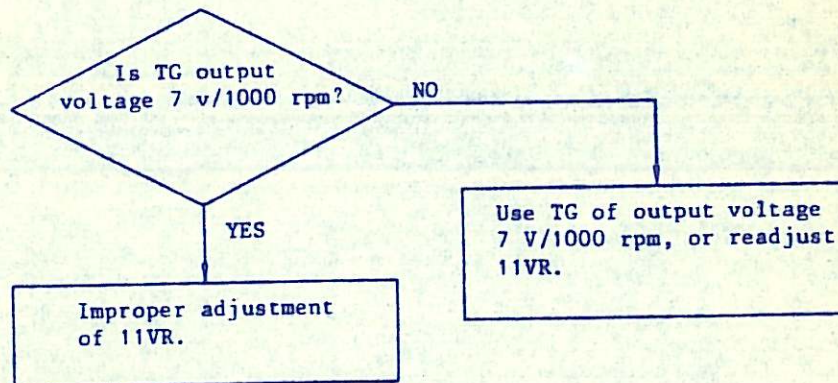

Fig. 12
- 1LED goes on when the motor is operated with high speed. See Fig. 12.